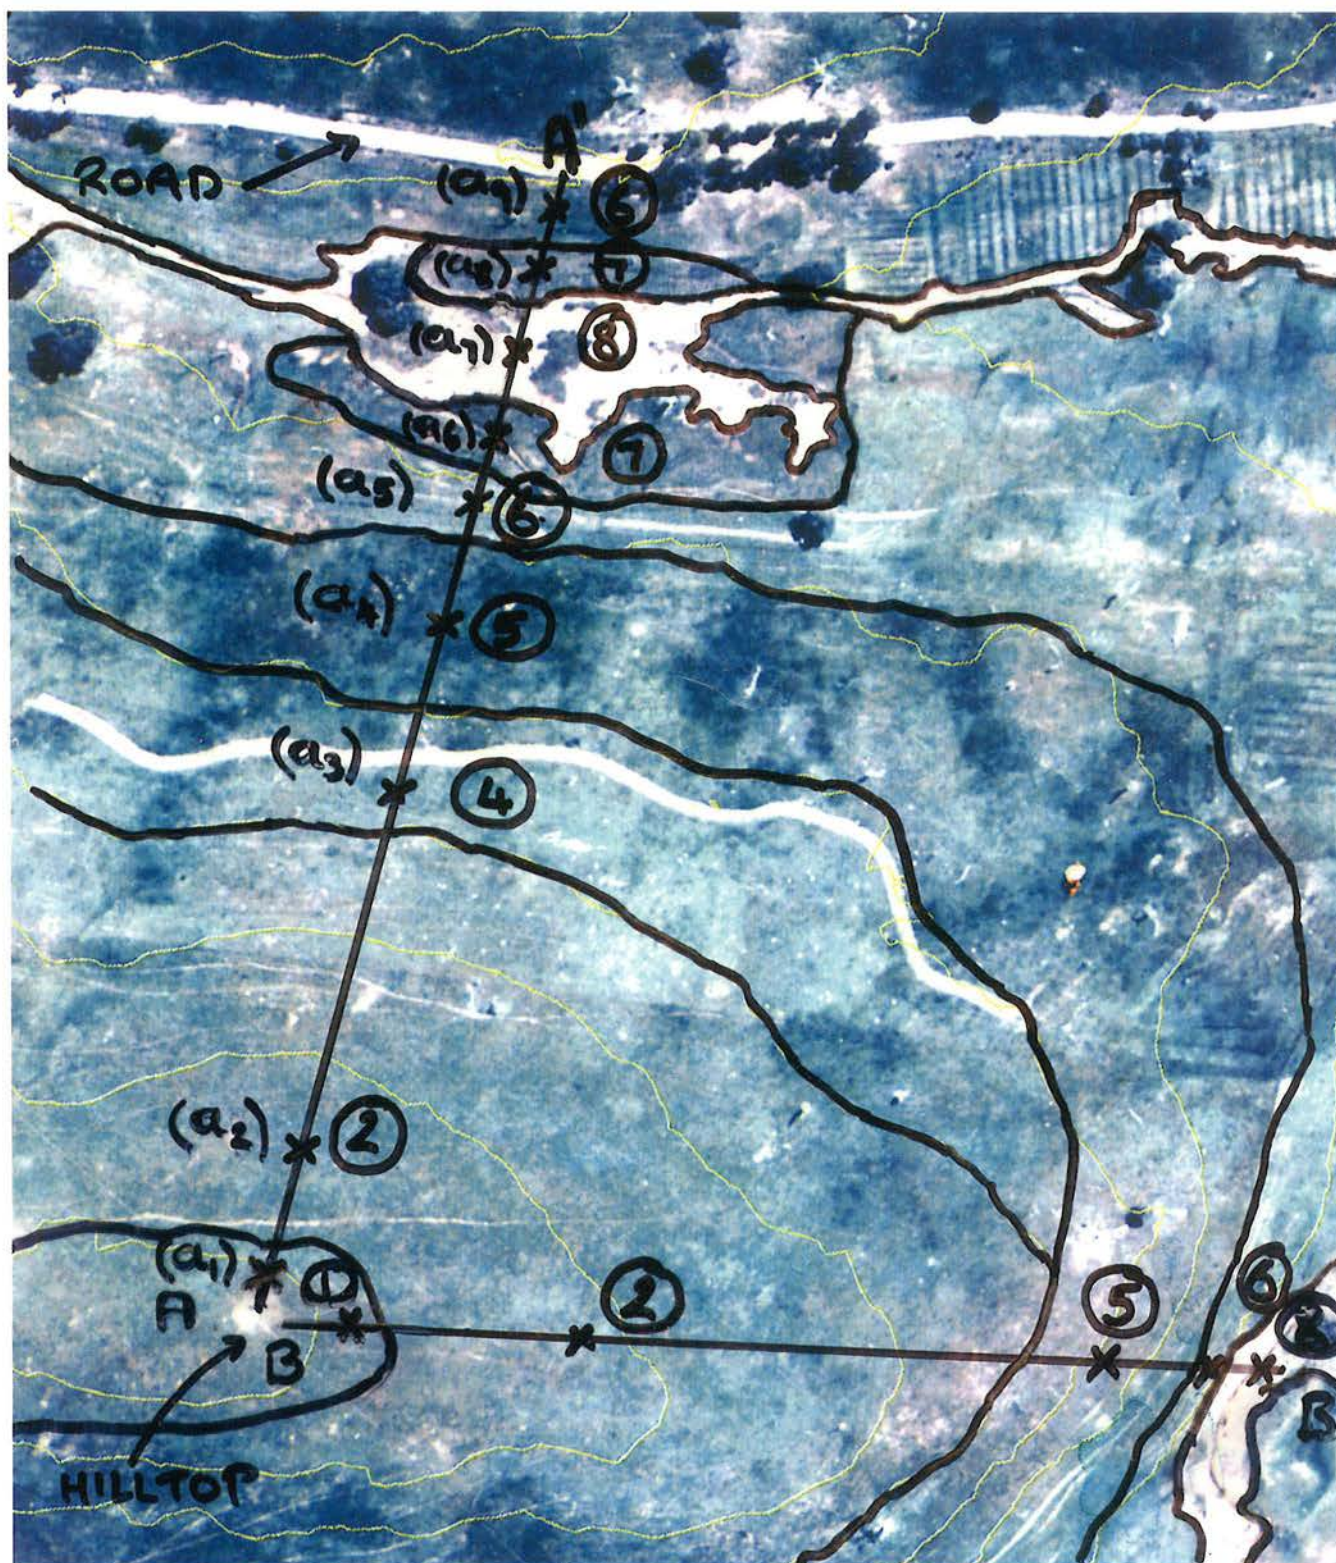

Figure 5a Plastic overlay with soil descriptions set over the aerial photograph
7. Repeat the above approximately every 30m down the slope or where landscape features change such as slope, vegetation or rockiness. Mark each subsequent point on the overlay (a_2), (a_3) *etc* (See Figure 5a). Tick the next column on the Field Recording Sheet.
- From information recorded on the Field Recording Sheets now locate the boundary of each soil on the first plastic overlay and write in the soil number. As you will only have information from a few selected transects you will have to make some estimate of the soil boundaries from vegetation and contours. (See Figure 5a)
The overlays such as in Figures 5a and 5b can now be used to identify land classes and management options, as part of a whole farm property management planning program.